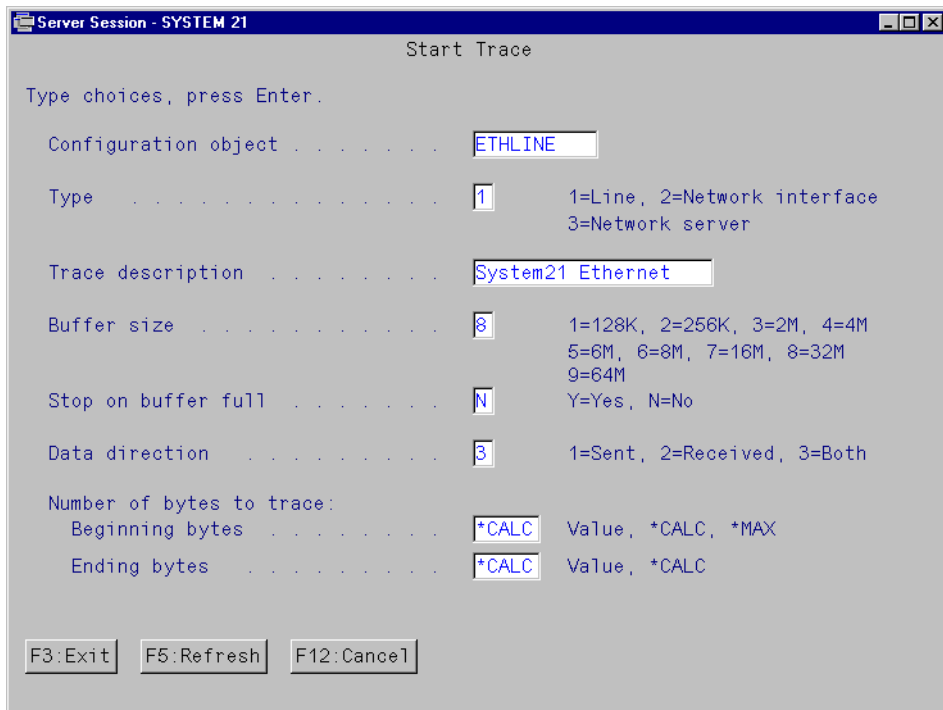

Figure 196. Start Trace - Defining a communications trace
4. If the name of the line you want to trace is under the Configuration Object field, type an 8 in the Option field. Press Enter to access the Start Trace display (Figure 196). If the line name is not already defined, press F6 to access the Start Trace field.